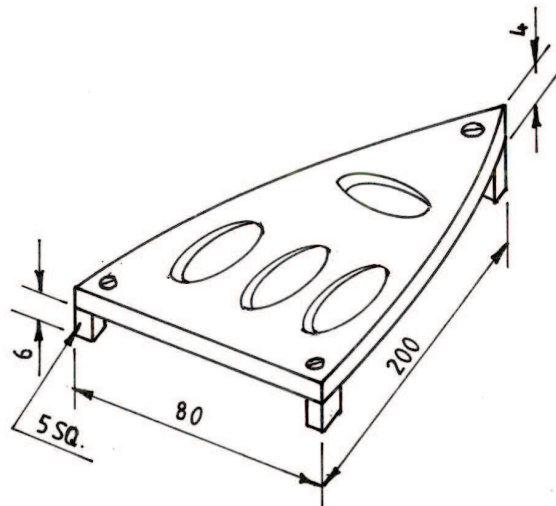

Fig. 2
**14** Figure 2 shows an iron box stand made of mild steel plate.